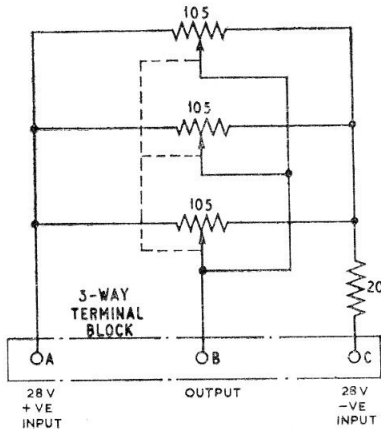

Fig. 2. Temperature selector, Type FHK/A/42 circuit diagram
4. By reference to *fig. 2*, it will be seen that the ganged potentiometer is used to vary the output voltage of a 28V. d.c. input supply. When connected in a cyclic de-icing switch circuit, it regulates the input voltage and hence the speed of a motor, which sets the rate of sequential switching of an a.c. supply to the aircraft aerofoil heater mats.
$-12^\circ\text{C. TO } -25^\circ\text{C.}$, and $-25^\circ\text{C. AND BELOW}$. Internal connections are as shown in fig. 2 except that the additional 20 ohm resistor is fitted between terminal A and the potentiometer connection.
This selector has a $20 \pm 5\%$ ohms resistor fitted externally to the potentiometer. The dial markings are $0^\circ\text{C. TO } -12^\circ\text{C.}$, $-12^\circ\text{C. TO } -25^\circ\text{C.}$ and $-25^\circ\text{C. AND BELOW}$. Internal connections are as shown in fig. 2.